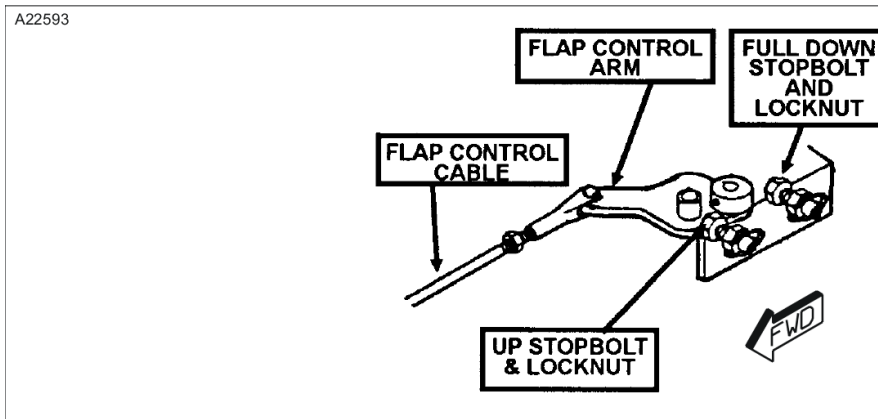
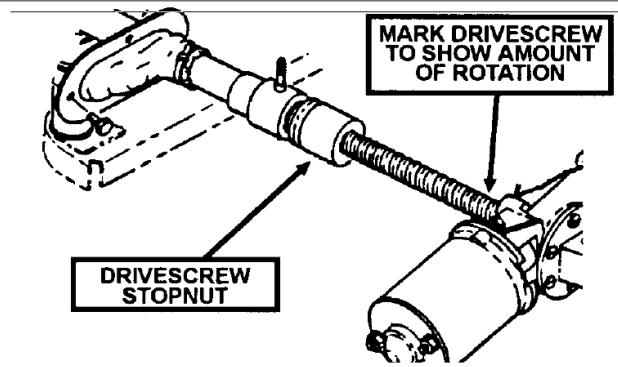

Figure 512
Figure 513
- (1) Disconnect flap control cable from flap control arm. (Refer to Figure 512)
- (2) Move flap control arm to the UP position. Flap control arm must be contacting Up stopbolt. (Refer to Figure 512)
- (3) Loosen locknut, then turn in Up stopbolt (Refer to Figure 512) in small increments until drivescrew stopnut contacts the end of the drivescrew (Refer to Figure 513). A distinctive "thump" will be heard when the stopnut contacts the end of the drivescrew. (Refer to Figure 513).
- (4) Mark the drivescrew near the transmission to indicate rotation of drivescrew. (Refer to Figure 513)